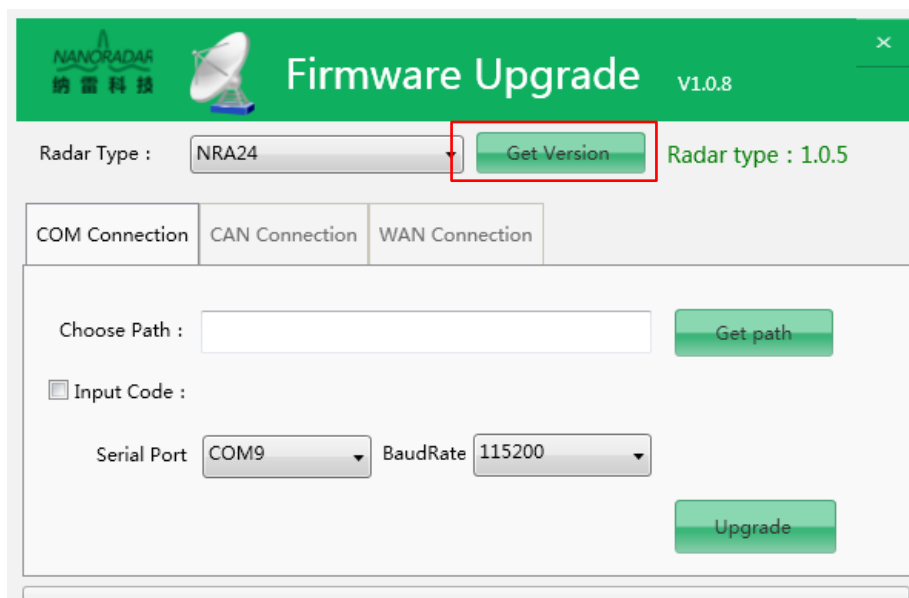

Figure 14 Get Version
b) Click on the "Get Version" button, and will get version of current radar , as figure 14.